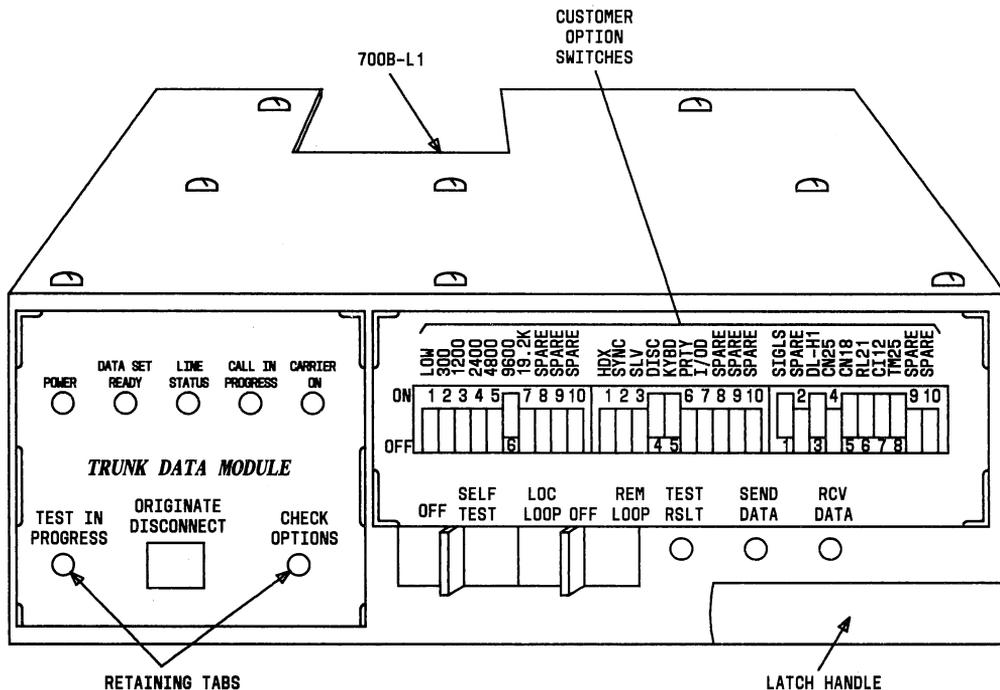

Fig. 2—Front View of Trunk Data Module Circuit Pack
2.01 The trunk data module circuit pack (700B-L1) is composed of a printed circuit board with protective shields attached to a faceplate (Fig. 2). The
2.04 The faceplate on the trunk data module circuit pack contains ten LED indicators, two paddle switches, a pushbutton switch, and customer option switches. By reversing and rotating the faceplate labels, the labels can be arranged for either stand-alone or multiple mounting. The designations adjacent to the indicators identify the functions being monitored. The indicators (Fig. 2) and their function are as follows: